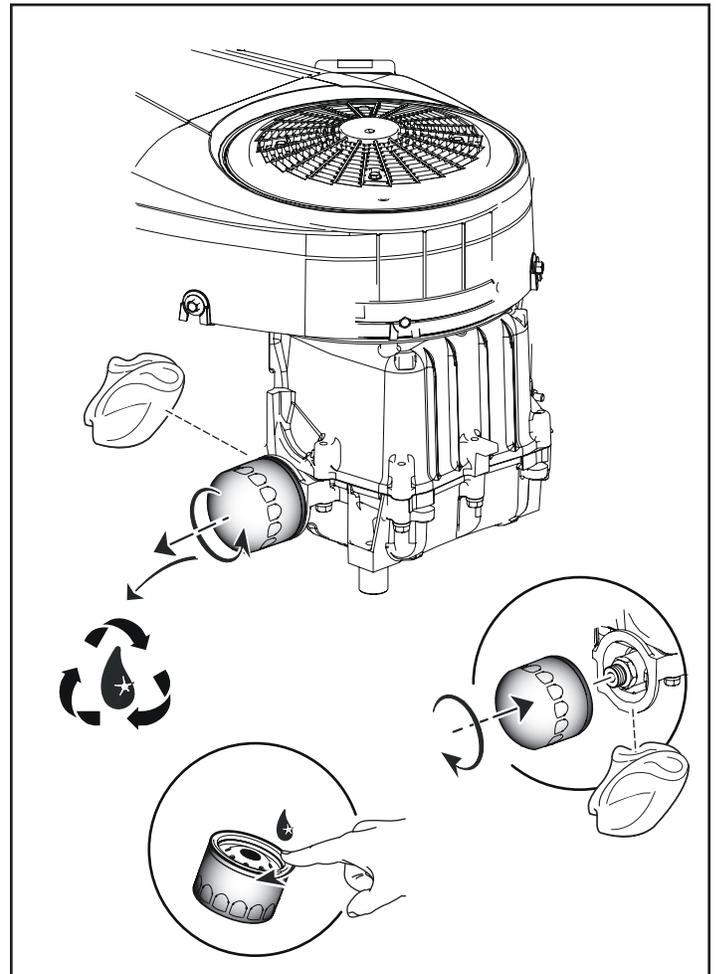

Figure 12
7. Lightly lubricate the oil filter gasket with fresh, clean oil (see Figure 12).